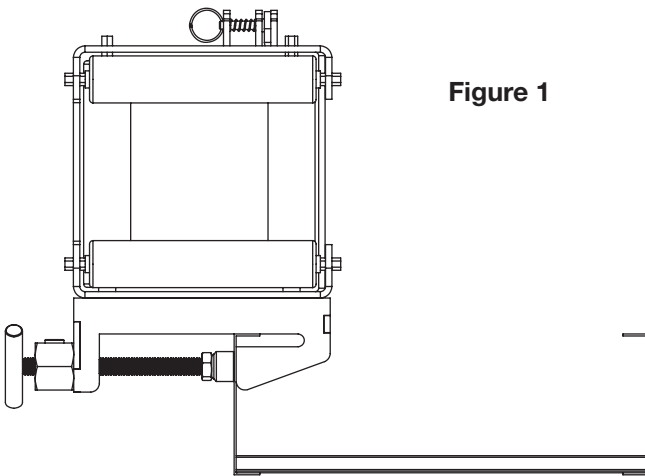

Figure 1
- Attach the roller to the cable tray as shown in Figures 1 through 3 above, depending on the type of flange used on the tray.